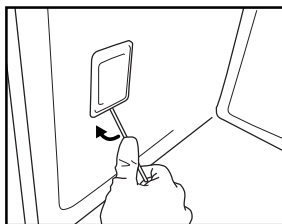

Fig. 10
3. Use a screwdriver to prise off the lamp cover (Fig. 10).